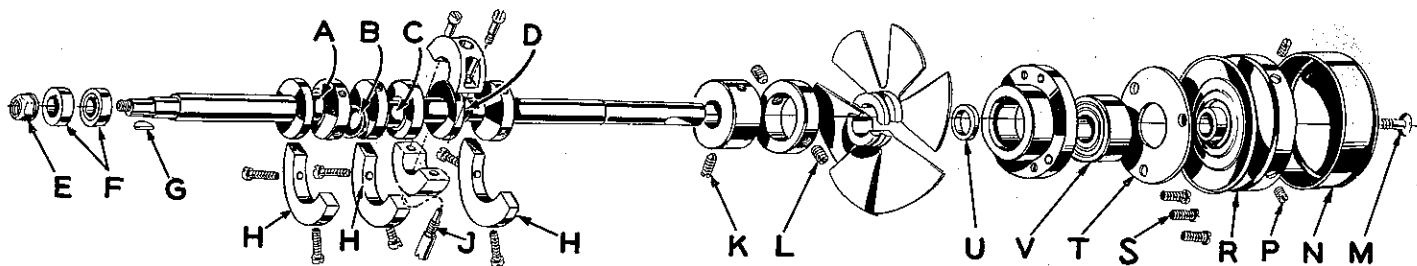
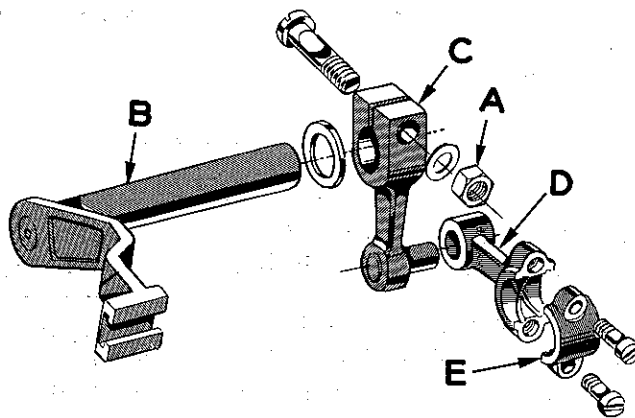

Fig. 16
Fig. 17
3. Remove feed eccentric nut (E, Fig. 16) and, with the aid of the eccentric extractor, slip off the eccentrics (F).
4. Remove key (G).
5. Remove three counterweights (H). Identify these counterweights so that they will be re-assembled in the proper places.
6. Remove screw (J) which holds crankshaft split bearing. This screw is reached through bottom of bed casting.
8. Loosen clamp nut (A, Fig. 17) which holds upper knife driving arm (B). Access to clamp nut is through top cover. Draw driving arm to the left until upper knife driving lever (C) and connecting rod (D) drop, allowing removal of bearing cap (E). This is at bearing point (C, Fig. 16) on crankshaft. Observe same precautions when re-assembling cap as described in 7 above.
9. Remove screw (K, Fig. 16) which holds inner right crankshaft bearing. This screw is reached through bottom of bed casting.
10. Loosen two screws (L) in fan collar; remove both halves of cooling fan.
11. Remove screw (M); take off pulley cap (N).
12. Loosen two screws (P); remove pulley (R).
13. Remove three screws (S); take off bearing retaining plate (T).
15. If necessary to replace ball bearing (V), it should be pressed off shaft on an arbor press. In replacing bearing it must be pressed on carefully until it seats against ground thrust washer (U).